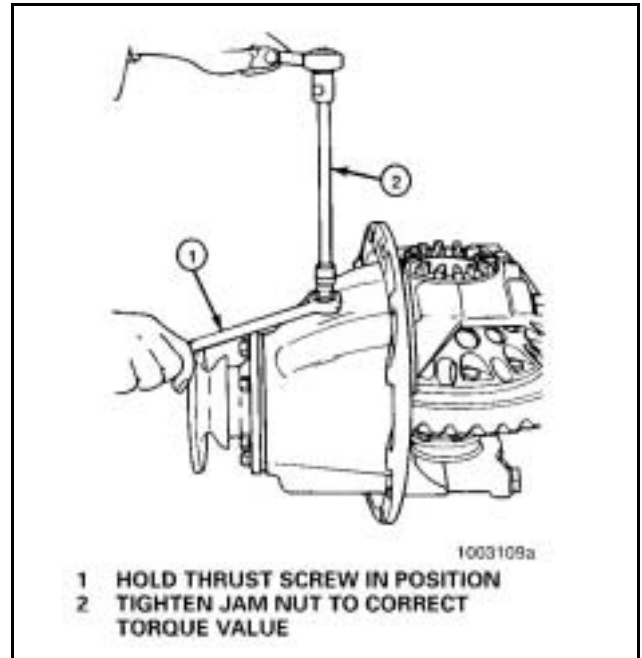

Figure 126
4. Tighten the jam nut* to the correct torque value against the carrier. Refer to **Table J. Figure 126.**